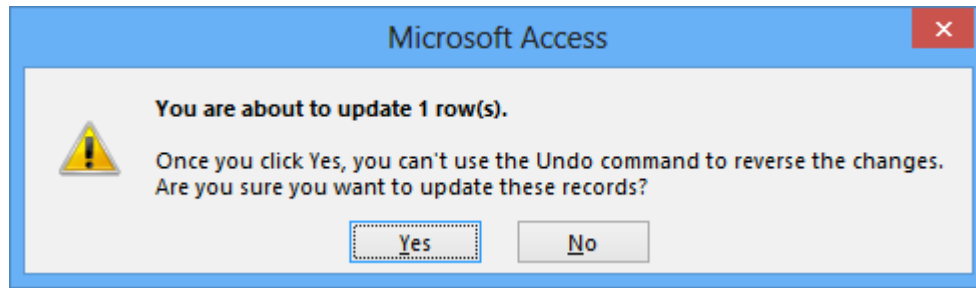

Figure 44: Update Message Box
2. **Execute the Query:** When you try to execute the query, the message in Figure 44 appears. Click the **Yes** button to update the record. Update queries can be repeatedly executed if you desire. If you execute this query two more times, the *UnitsInStock* field is reduced by 2. Close and save the query as “SQL6” when prompted.